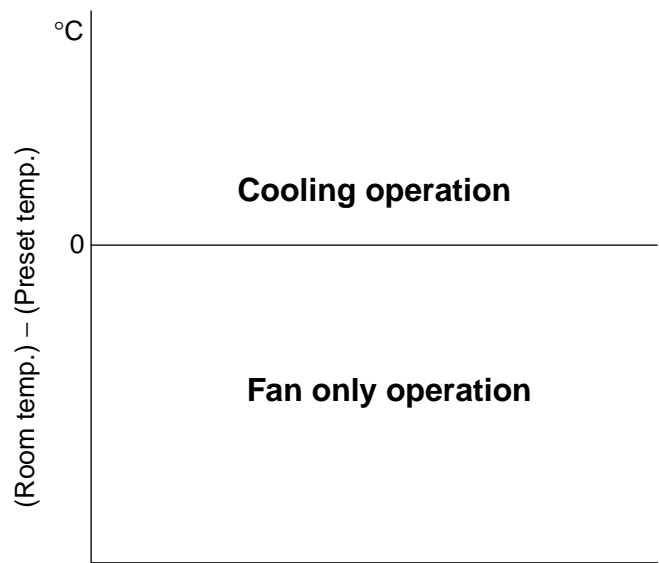

Fig. 7-3-6
- (1) One of 2 operations (Cooling or Fan only) is selected according to difference between the preset temperature and the room temperature at which the automatic operation has started, as shown in Fig. 7-3-6. The Fan only operation continues until the room temperature reaches a level at which another mode is selected.
(2) Temporary Auto
When the RESET button on the indoor unit is pushed, the preset temperature is fixed at 24°C and the indoor unit is controlled as shown in Fig. 7-3-6.